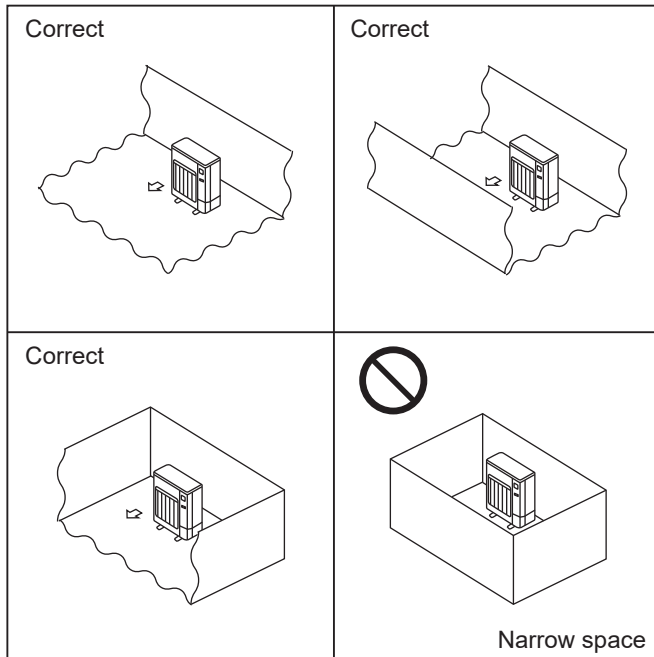

Fig. 2-1
- Install outdoor units in a place where at least one of the four sides is open, or in a sufficiently large space without depressions. (Fig. 2-1)